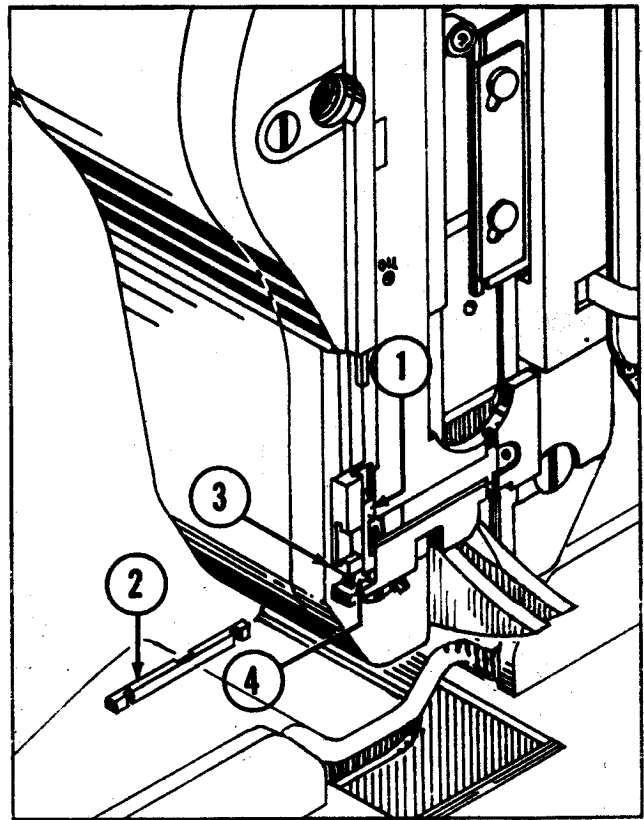

Figure 11—Removing Wire Cutters
2. HOW TO REMOVE WIRE CUTTERS (See Fig. 11.)